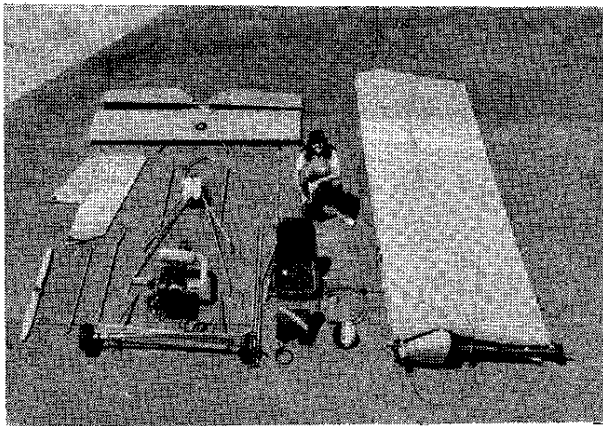

Figure 2.1
3. Remove storage cover. **Figure 2.1**